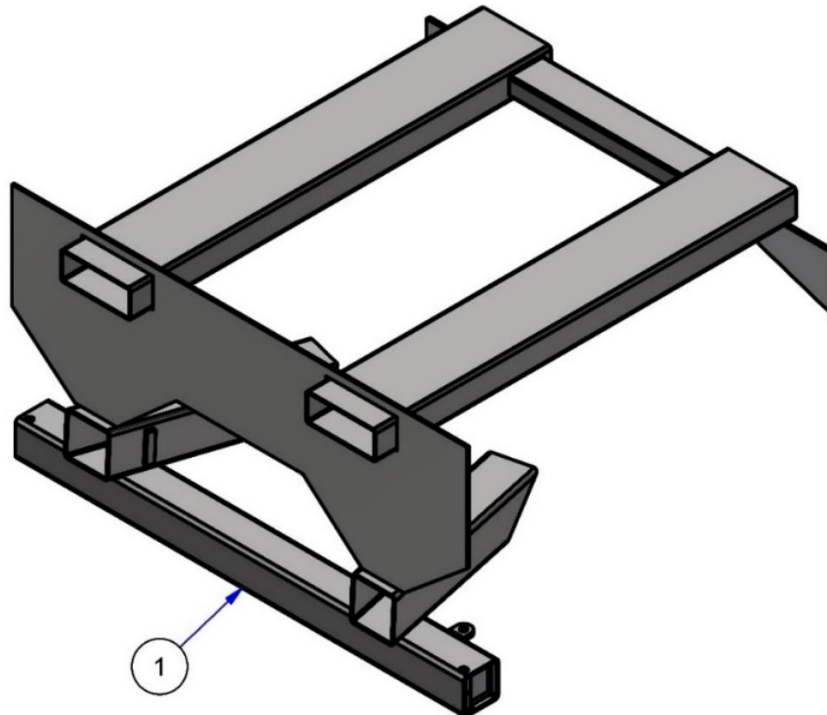

Figure 7 (Underrun Bar Top View)
2. Tack weld it to the back plate as illustrated in Figures 7 and 8